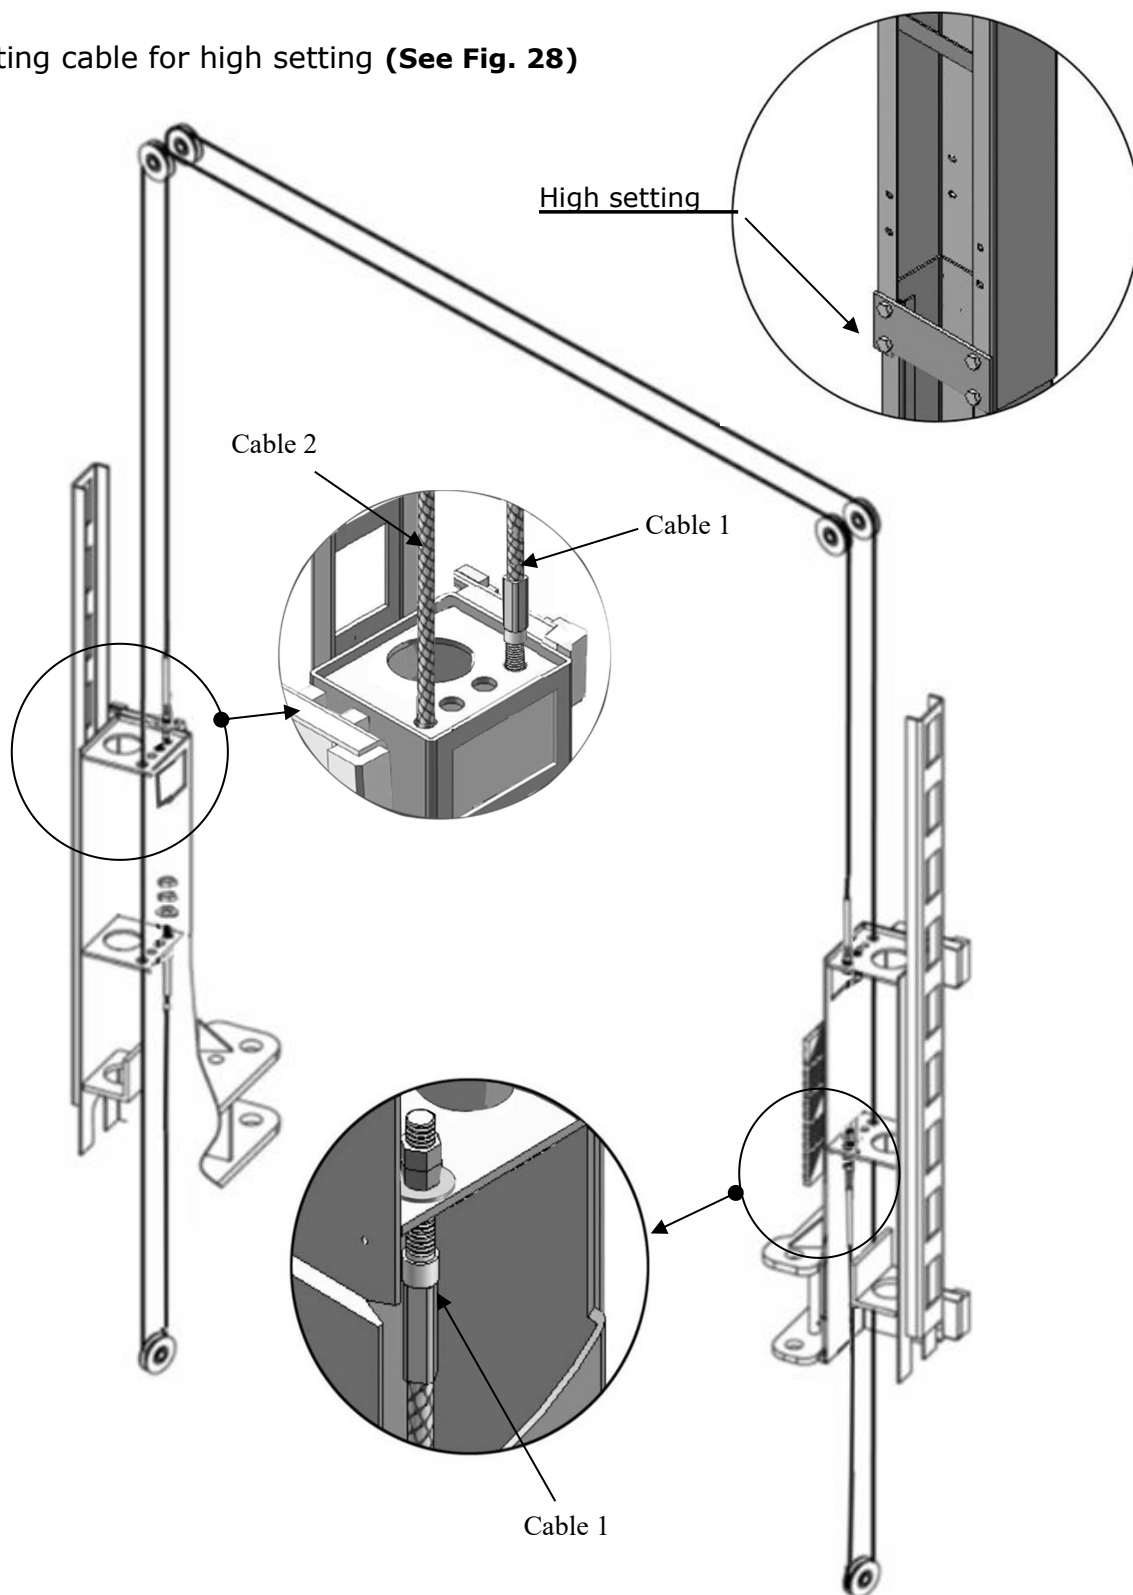

Fig. 28
1.2 Connecting cable for high setting (**See Fig. 28**)